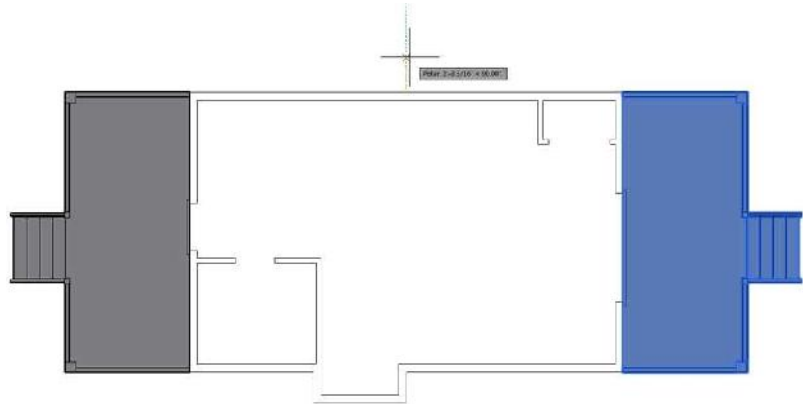

FIGURE 16.66: Mirroring the front deck
9. Press ↵ to accept the default option not to delete the original objects (see Figure 16.66).